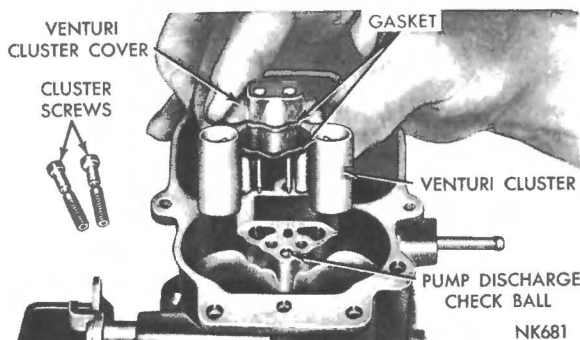

Fig. 4 Removing or Installing Venturi Cluster
(13) Remove the venturi cluster screws, then lift the venturi cluster and gaskets up and away from main body, as shown in (Fig. 4). Discard the gaskets.
(5) Install new gaskets on venturi cluster, then install in position in the main body. Refer to (Fig. 4). Install the cluster screws and tighten securely.